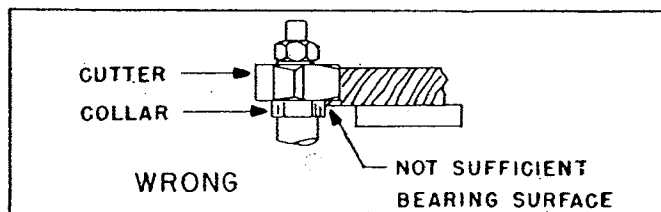
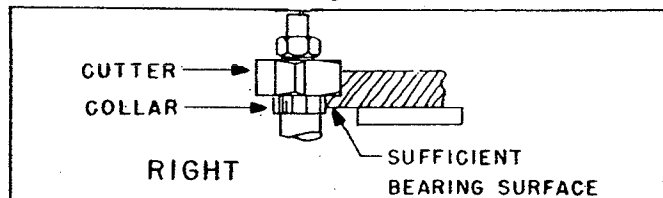

Fig. 27
Fig. 28
3. A portion of the edge of the work **MUST** remain untouched by the cutters in order that the collar will have sufficient bearing surface. Fig. 27 illustrates the wrong way for this operation while Fig. 28 illustrates the right way.